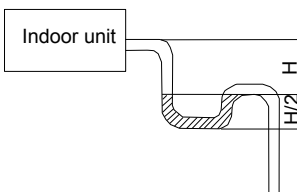

Fig. 4.22
- (4). When the drain hose cannot keep a sufficient gradient, it is necessary to fit a riser pipe (field supplied) to it.
- (5). If the air flow of indoor unit is high, this might cause negative pressure and result in return suction of outdoor air. Therefore, U-type water trap shall be designed on the drainage side of each indoor unit.(Fig. 4.22)
- (6). Install one water trap for each unit.
- (7). Installation of water trap shall consider easy cleaning in the future.